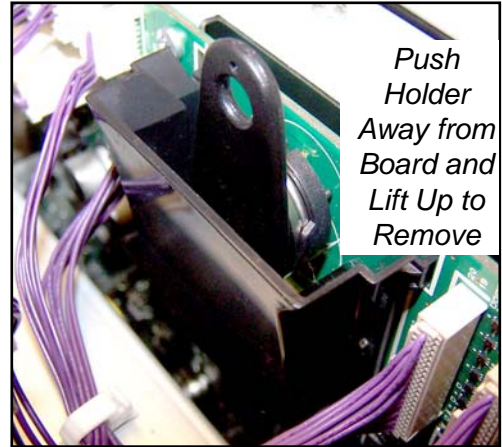

Figure 4-7 Removing PSD
- e. Carefully pull the holder up at an angle to release it. (See Figure 4-7.)
For the one situation when the iButton PSD will be removed from the machine, as noted above, a special box kit must be ordered. Attach the iButton PSD to the iButton Security Cover as shown in Figure 4-7 and ship it back in the box.